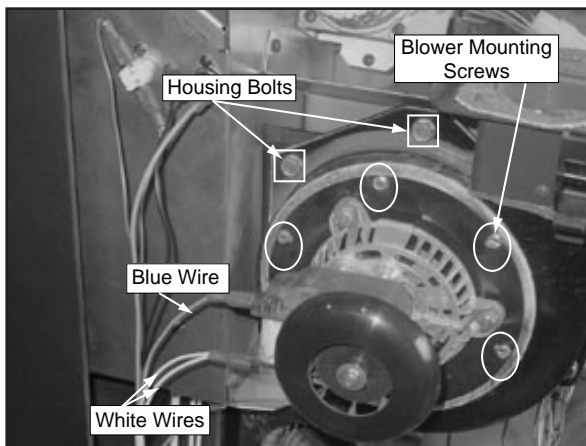

Figure 35.2
- e. Remove blower mounting screws (not housing bolts), **Figure 35.2**, from blower housing and remove blower. The replacement blower is shipped with a housing. If you do not need the housing you will also need to replace the gasket. See Service Parts on **pages 44-45** for the part number.